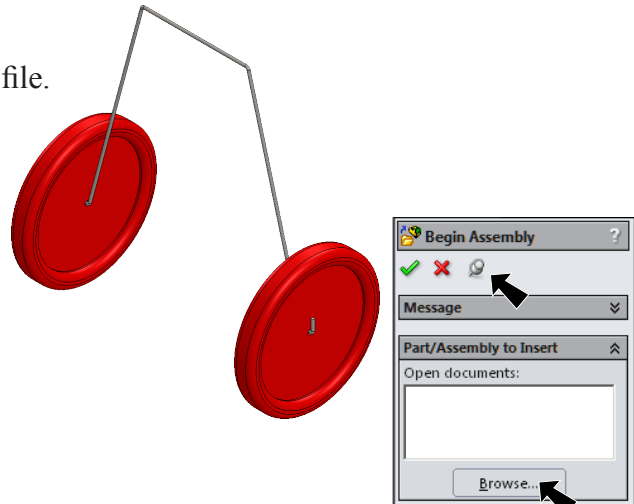

Fig. 1
Step 5. Click **Keep Visible**  in the Property Manager, **Fig. 1**.
Step 7. Click **Browse** in the Property Manager, **Fig. 1**.